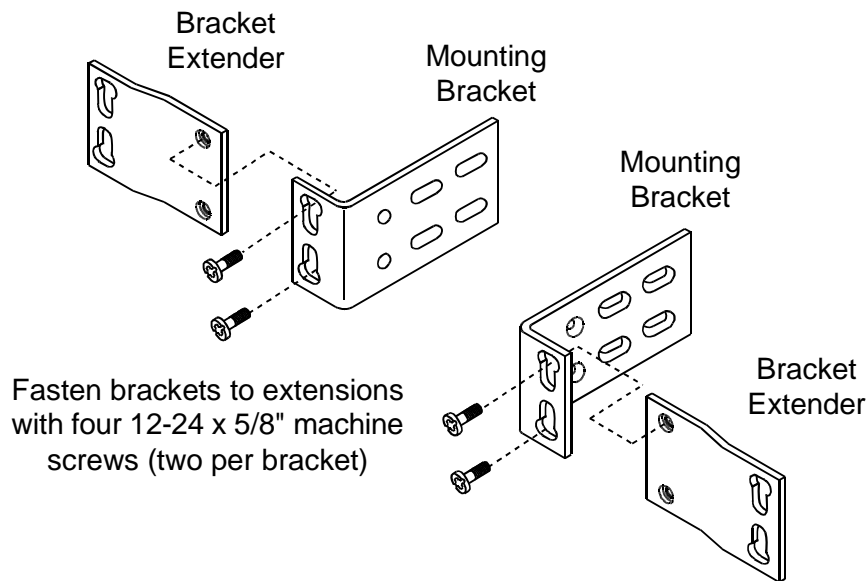

Figure 5-4. Assemble Mounting Brackets
1. Open bag containing universal rack mounting kit. It should contain the following items (see Figure 5-4):
2. Assemble mounting brackets for 23-inch racks (see Figure 5-4).